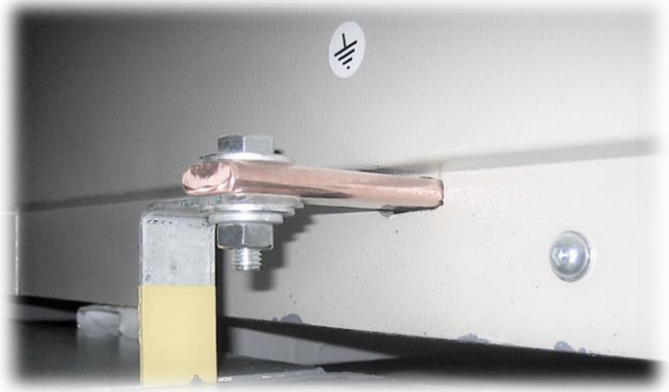

Fig.7.6. Substation main earthing busbar
- Connect the main substation earthing conductor to the main earthing bar of the switchboard. Refer to Fig.7.6